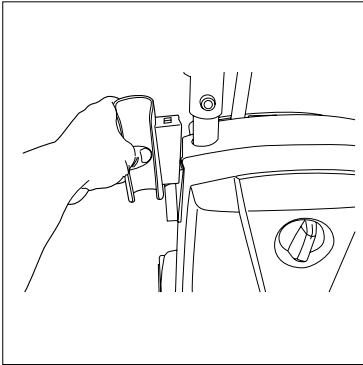

Fig. 1
- Slide the spray gun holder onto the left side of the washer when facing it. This does not require any screws. (Fig. 1)